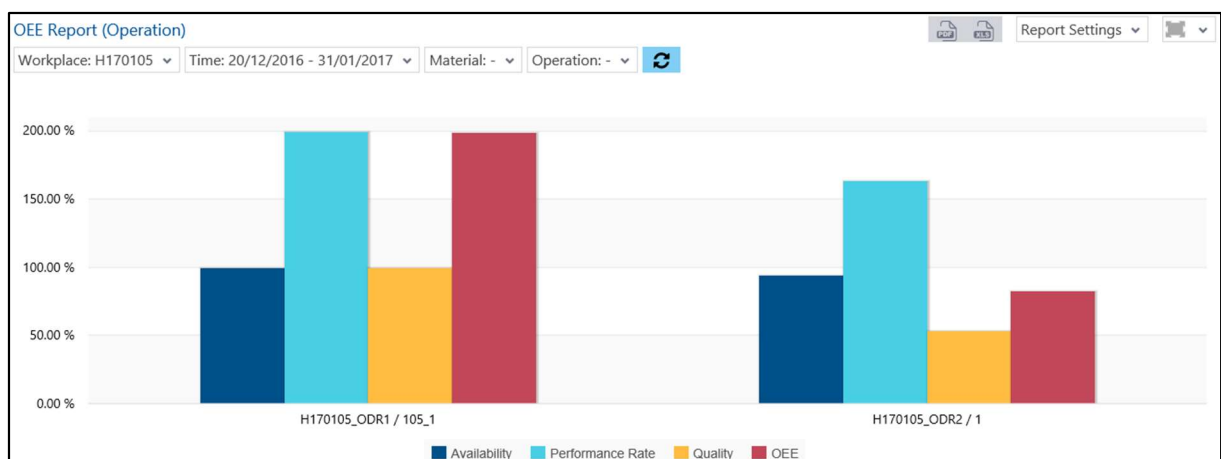

Fig. 45: OEE Report (Operation) as a column chart
- OEE Report (Operation) as a column chart (Fig. 45):